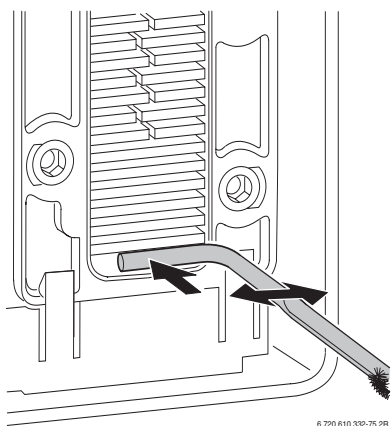

Fig. 56
- Flush the heat exchanger from the top. Refer to fig. 56.